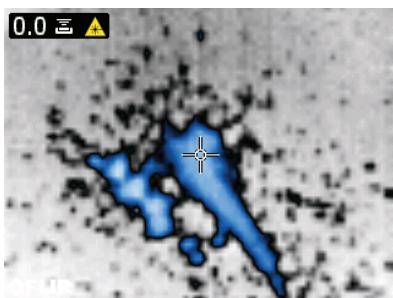

Fig. 5-8a Laser and Cross-hairs visible;
2. Hold the Capture button until crosshairs appear and laser are visible (Fig. 5-8a)